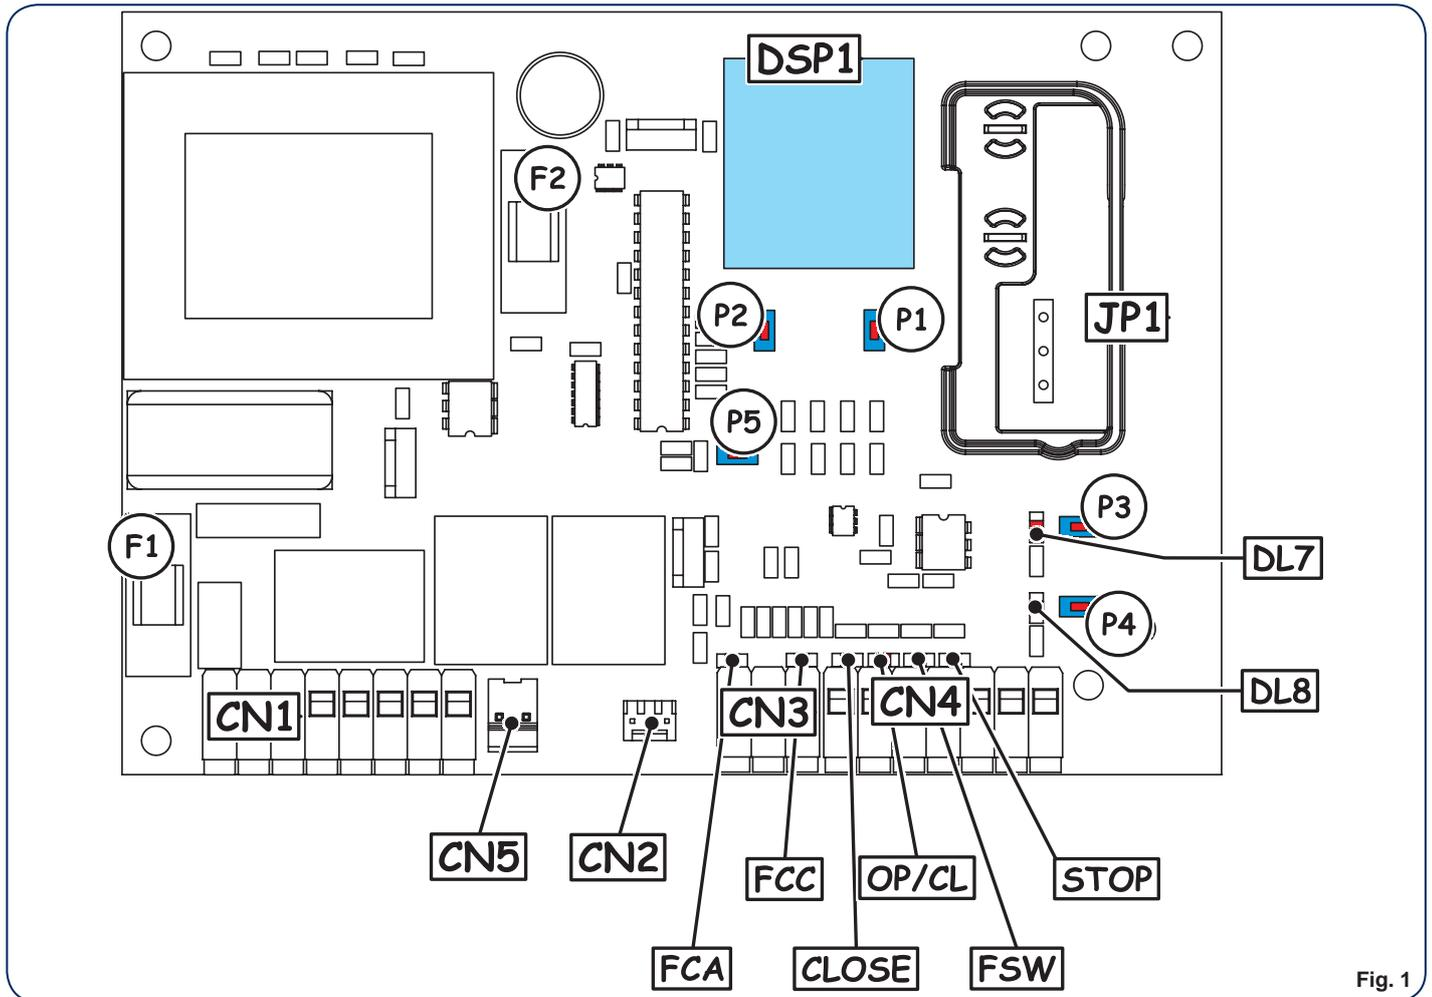

Fig. 1
4. LAY OUT SCHEDA (Fig. 1)	pag.2
4. LAY OUT SCHEDA (Fig. 1)